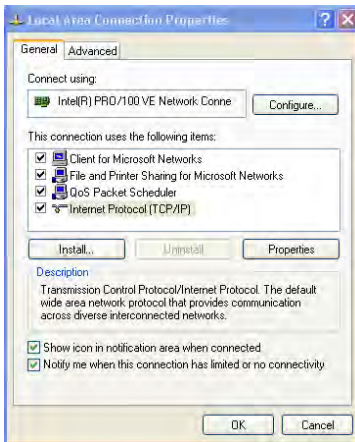

Figure 3: Local Area Connection Properties Window
5. Select the *Internet Protocol (TCP/IP)* and click the *Properties* button (see Figure 3).